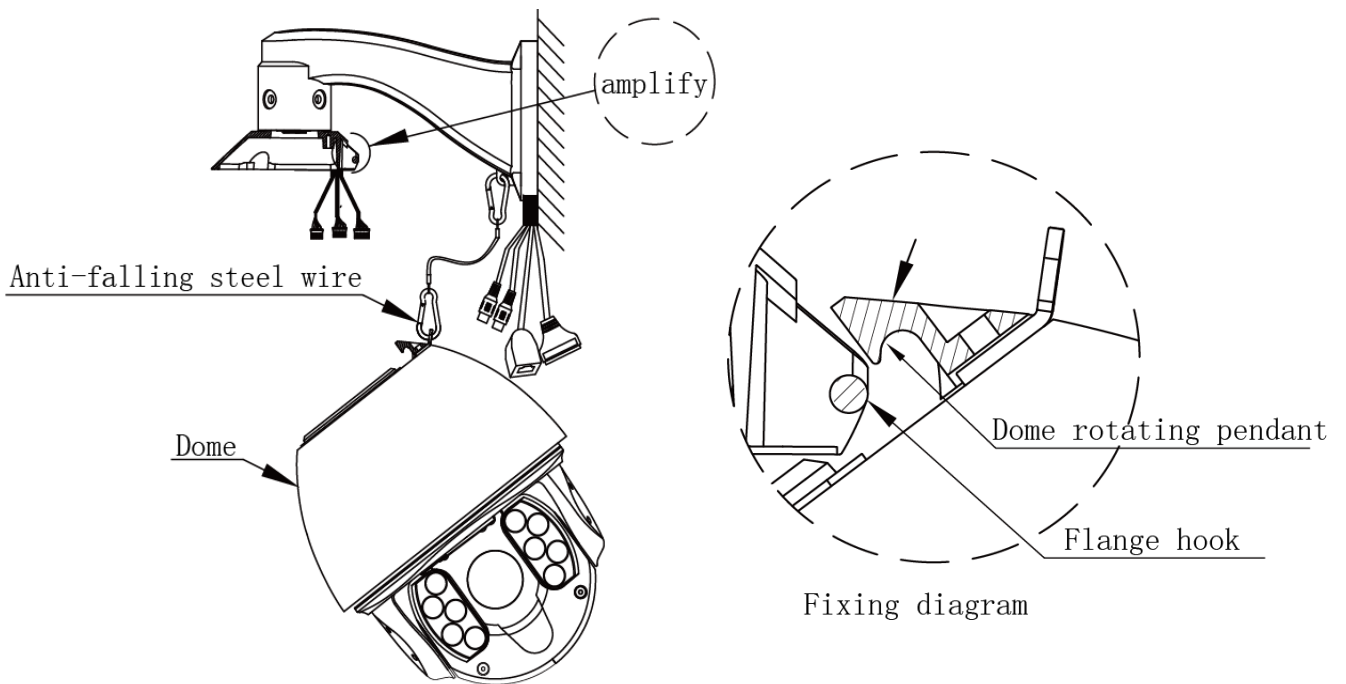

Figure 5
5. Please insert the expansion screw into the hole, align the stand base hole with the mounting surface hole, put into the screw, and lock it. Anti-falling steel wire ropes with HD infrared speed dome and the wall bracket. Hold the dome with both hands as shown in the machine was 45 ° tilt angle, the mounting rotating pendant dome is aligned with the rotation of the hook inside the buckle into the flange, as shown in figure 5.